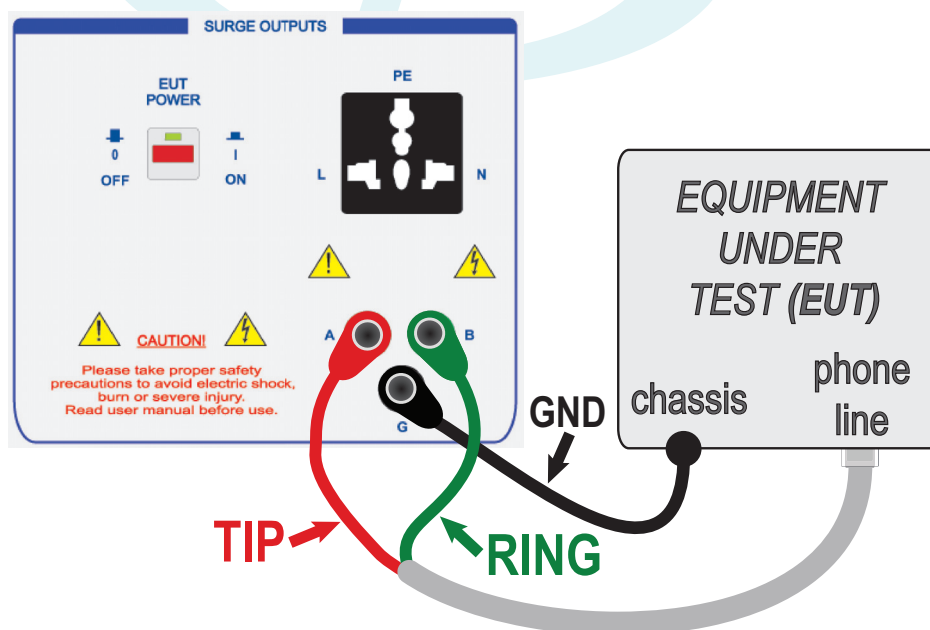

FIGURE 8 - Coupling Example for *Type A – 800V (metallic) Surge*
Ideally, EUT lines under test should be fitted with 4mm safety socket connectors, and connected directly to the appropriate SGTEL-168 (A/B/G) output terminals as illustrated for each respective surge waveform in Figures 8, 9, 10, 11 and 12.
The SGTEL-168 applies this surge between Terminals (A) and (B). Therefore, the EUT lines to be tested should be connected to these terminals for this surge, as shown in Figure 8.